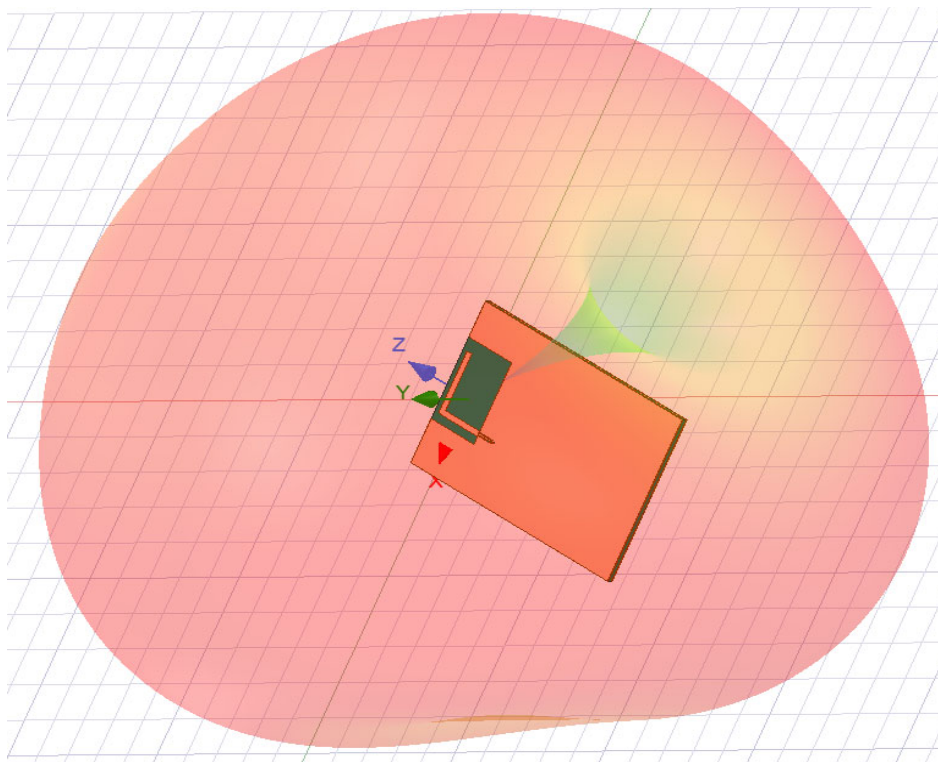

Figure 7. Radiation Pattern Gain Plot with RSL15 Reference Antenna Layout
- Radiation Pattern Gain Plot with RSL15 Reference Antenna Layout (Figure 7)